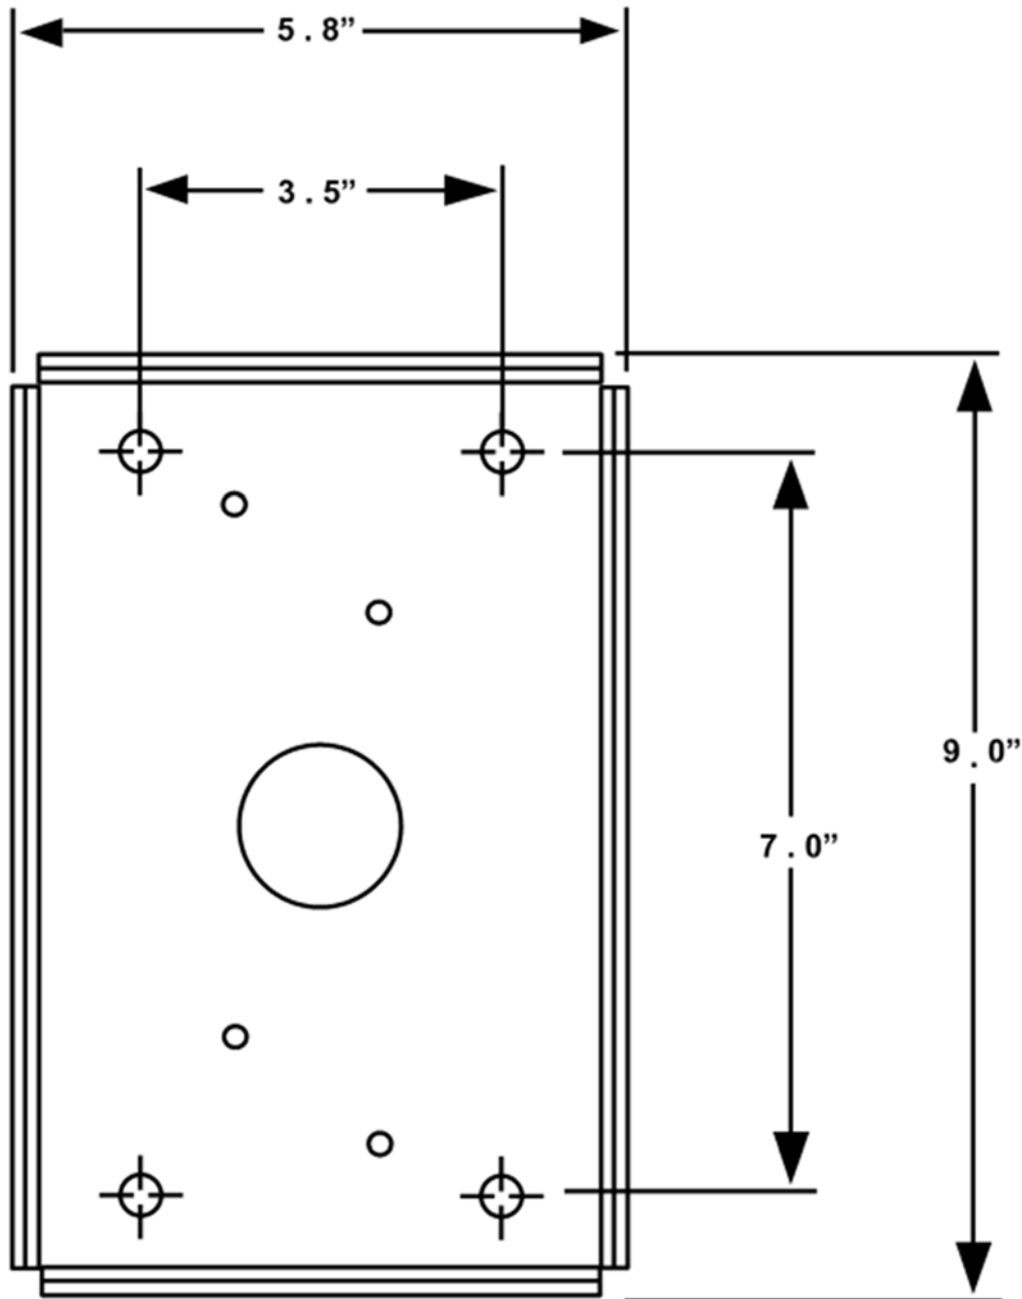

Figure 1 – L1 PowerPost® EVSE Footprint & Mounting Hole Locations
- ✓ Four concrete anchors with tensile strength of 450 lbs or more. (See Figure 1 for spacing)